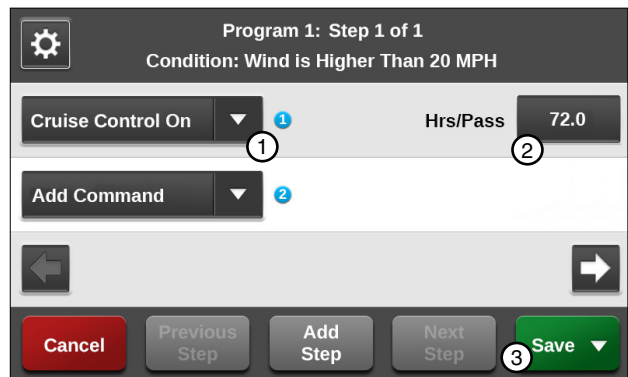

Figure 121-3 1. Cruise Control On Command
4. Enter the command to be executed when wind speed is higher than 20 mph. Refer to Figure 121-3.